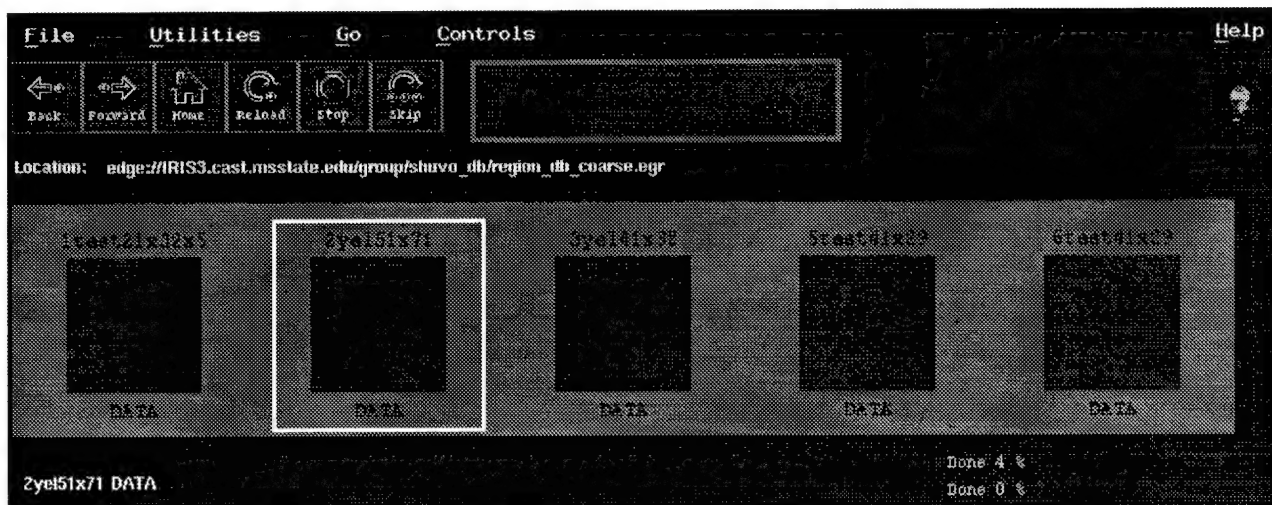

Figure 10 – The Bathy-Coarse EDGE window
4. This generates a page containing icons representative of saved databases, which contain gridded bathymetry and station data (Figure 10). Clicking on other databases icons will generate similar pages.